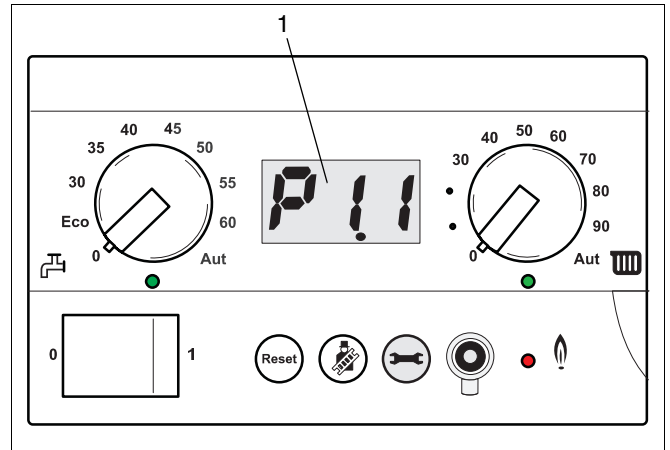

fig. 32 Pressure display
- Fill the system to a pressure of approx. 1.5 bar (fig. 32, item 1).